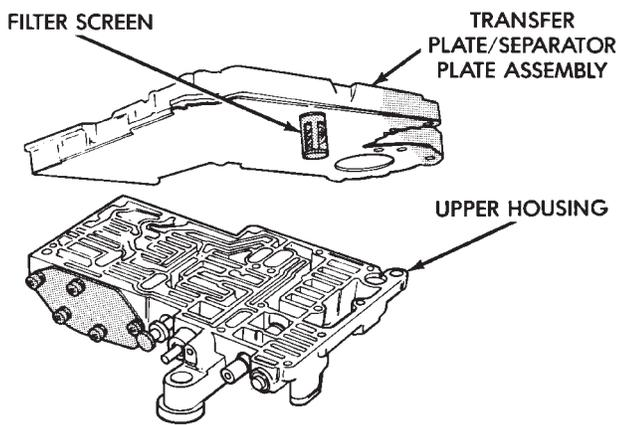

Fig. 99 Installing Transfer Plate On Upper Housing
- (2) Position assembled transfer plate and upper housing separator plate on upper housing (Fig. 99). Be sure filter screen is seated in proper housing recess.